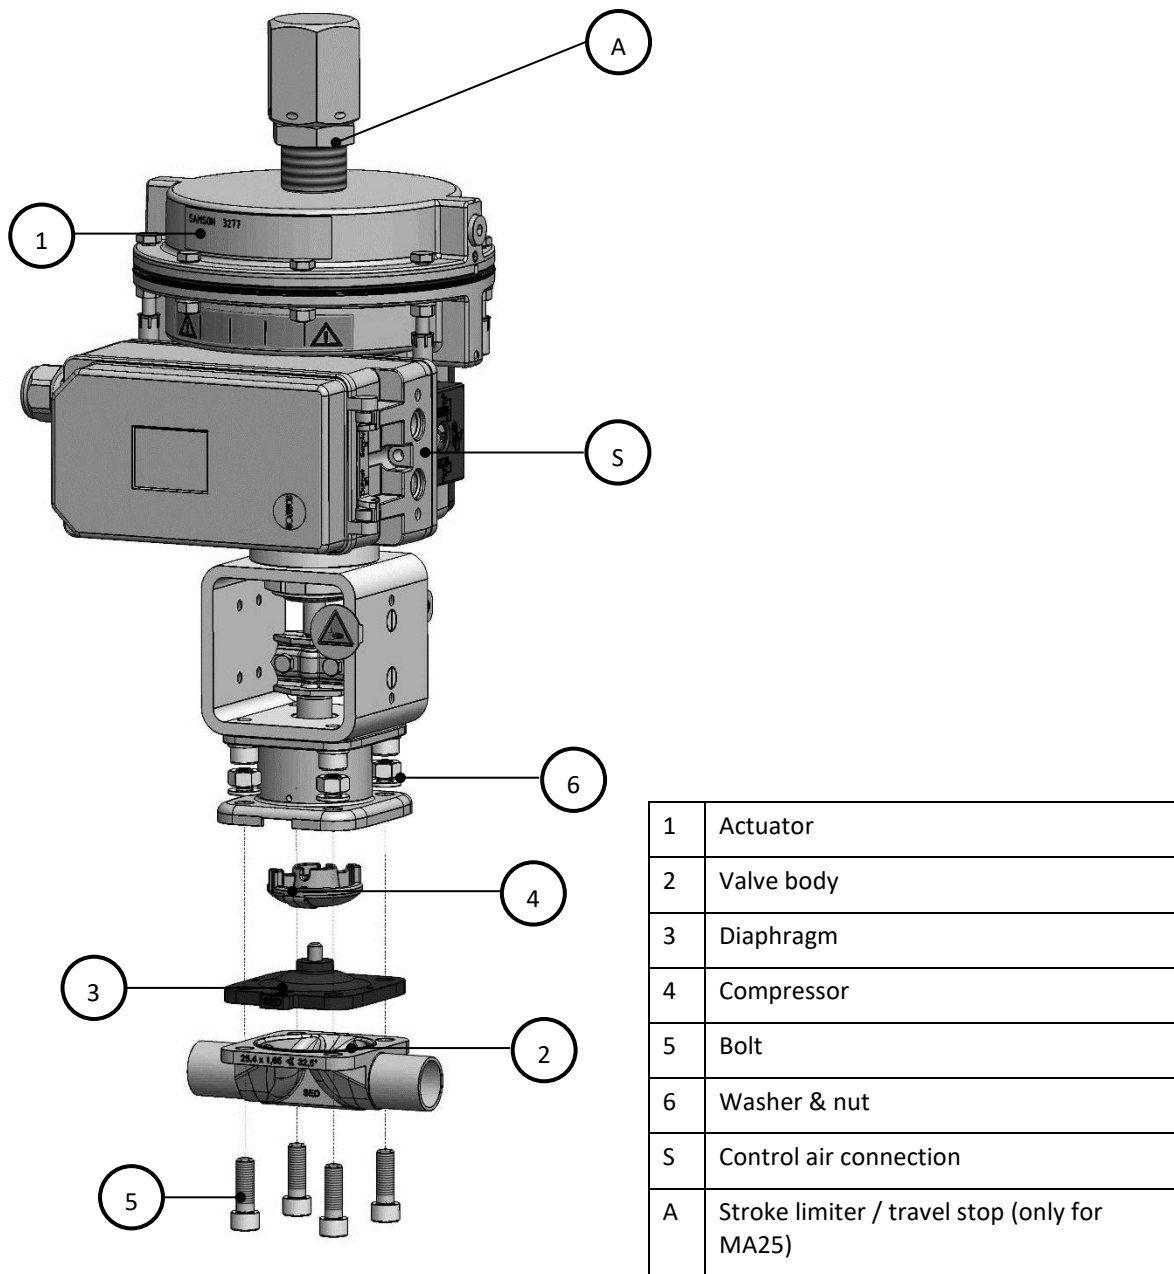

Figure 2: Exploded view of complete valve
- Position the actuator (pos. 1) correctly on the valve body (pos. 2), see Fig. 2. Make sure that the alignment of the diaphragm web and the valve body web match!
- Tighten the screws (pos. 5) or nuts crosswise with the appropriate torque, see tables below.